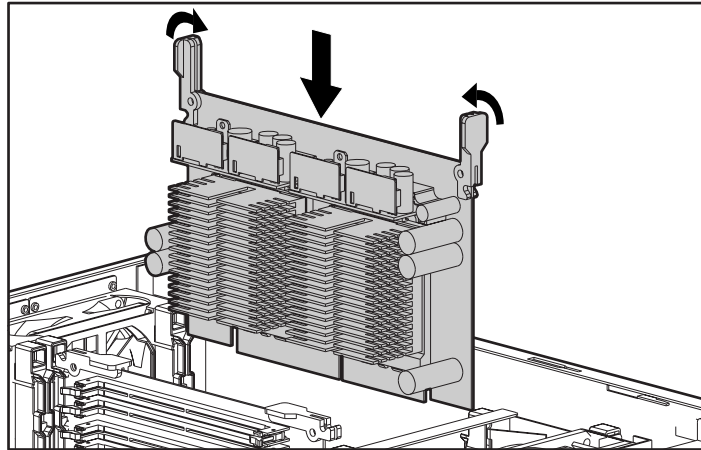

Figure 4-3. Installing the Pentium Pro Processor Board
3. Follow the instructions included in the processor option kit to install the processor on the board. Install the board as shown in Figure 4-3.